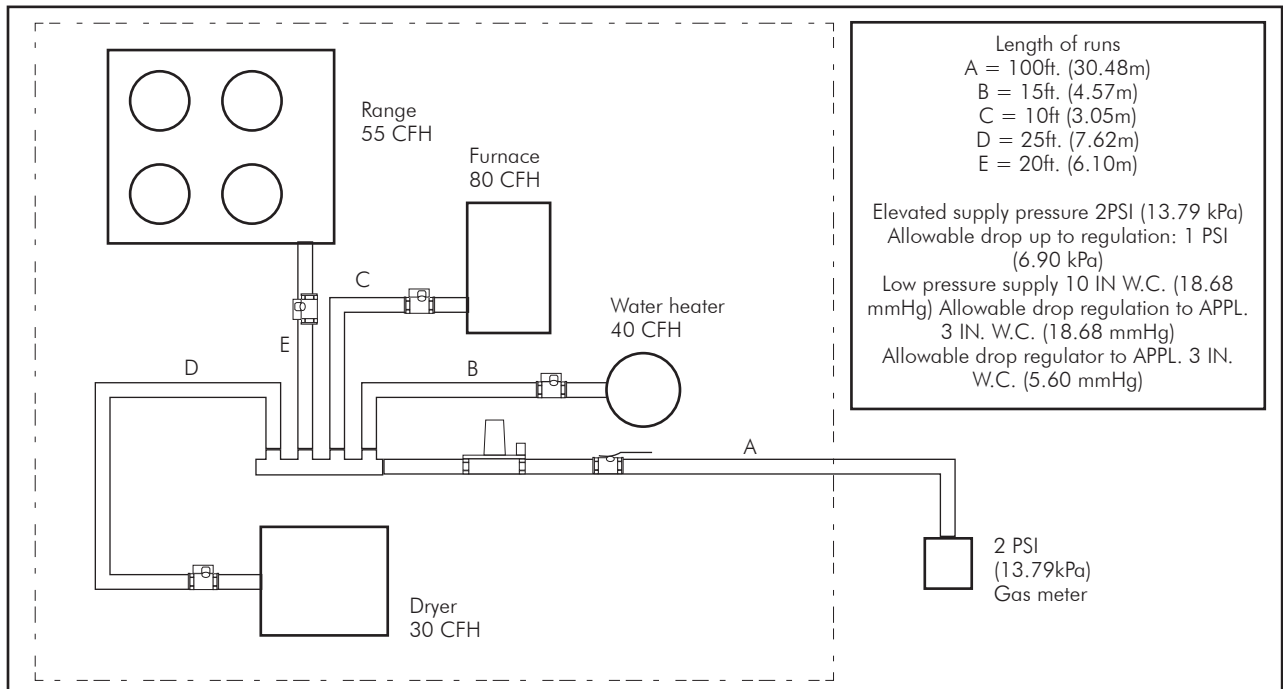

FIG. 3-4 Example 3 - Elevated/Dual Pressure System, 2PSI (13.79 kPa), Parallel Arrangement
Elevated/Dual Pressure Systems – FIG. 3-4
1. The system shown in FIG. 3-4 is adapted for multifamily or single family application with an extended, 100 ft. (30.48m), tubing run from the meter to the regulator. The 2 PSI system is well adapted to handle the long runs required in multifamily buildings with centralized meter banks.
- Table N-5 shows that $\frac{3}{8}$ " (10) is too small for 205 CFH, $\frac{1}{2}$ " (13) can handle 249 CFH
- The correct size is $\frac{1}{2}$ " (13)
- Section B is 15ft. (4.57m) with a 40 CFH Load. The suitable size $\frac{3}{8}$ " (10) has 106 CFH capacity at 15 ft. (4.57m)
- Section C is 10 ft. (3.05m) with a 80 CFH load. The suitable size $\frac{3}{8}$ " (10) has 131 CFH capacity at 10 ft. (3.05m)
- Section D is 25ft. (7.62m) with a 40 CFH load. The suitable size $\frac{3}{8}$ " (10) has 82 CFH capacity at 25 ft. (7.62m)